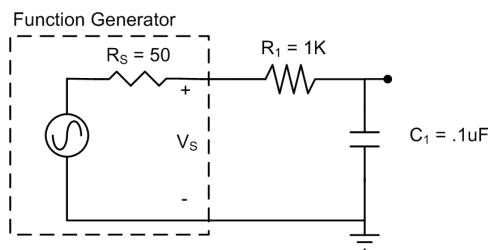

Figure 5.6: Mystery Filter One
1. Connect the circuit in figure 5.6 and measure both the input voltage, V_{IN} , and the output voltage, V_{OUT} , on the oscilloscope. For V_{IN} use an 8VPP sine wave at a starting frequency of 10 Hz. This data should be recorded in table 5.1.
- Once you have found the corner frequency of the circuit in Figure 5.6, plot the magnitude of V_O and phase response of the range of frequencies from 10Hz to 300kHz. Fill in table 5.1 with your calculations then plot your results on a separate sheet of paper. Use logarithmic scale for frequency axis.